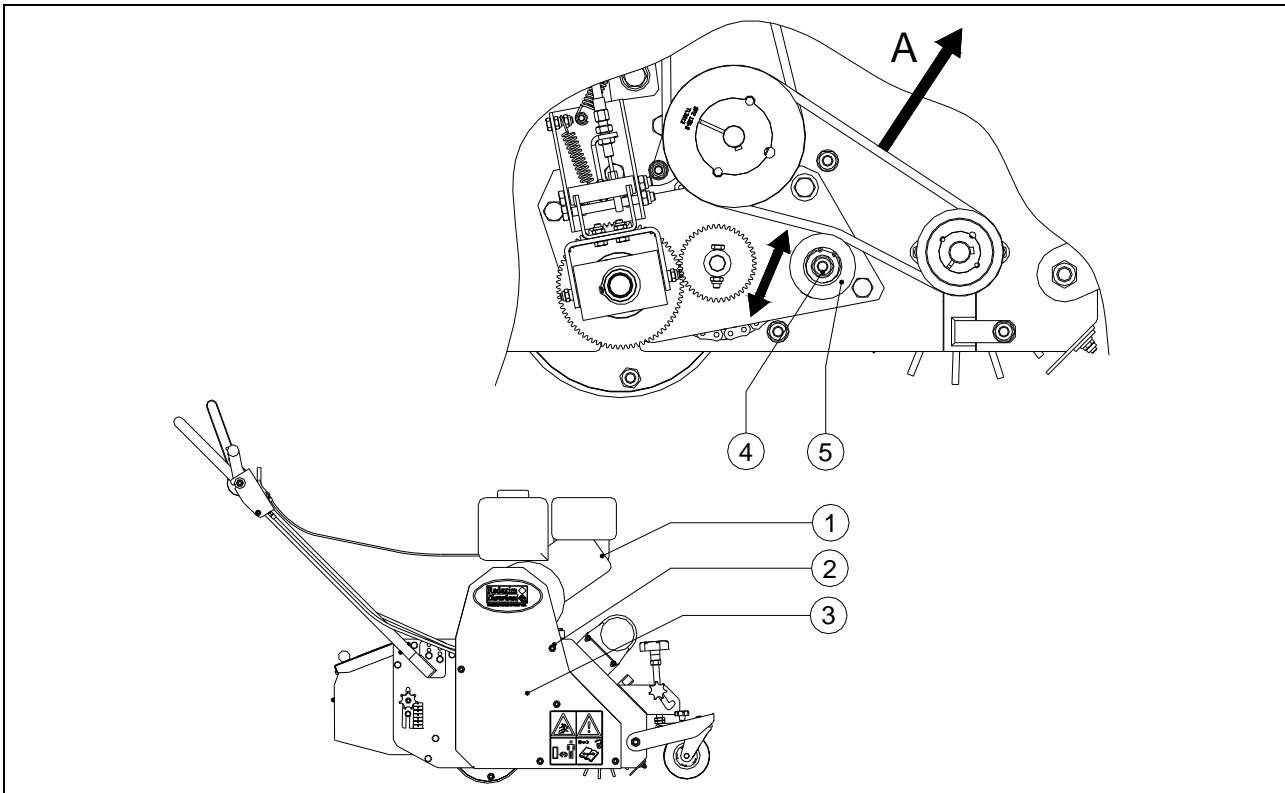

Figure 17
1. Tension pulley for the drive of the brush (see Figure 17)
Tension pulley for the drive of the brush (see Figure 17)